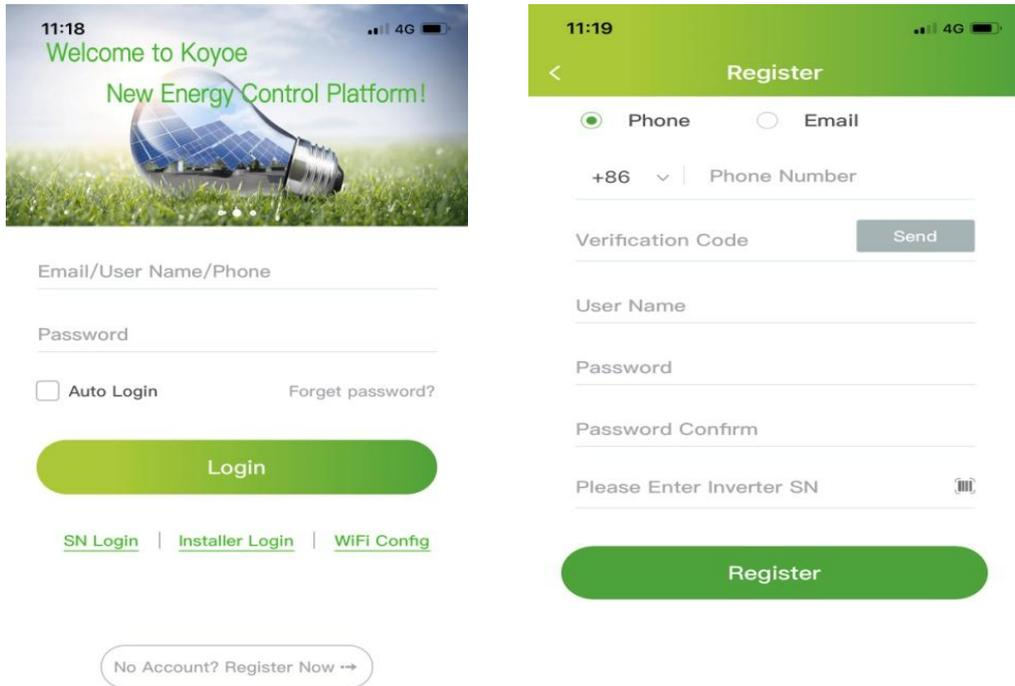

Figure 11-5
- 3.) In apple and android app stores, enter the KOYOE-log keyword, and users can download apps to your mobile device. After installation and registering an account, The method is shown in Fig11-5.